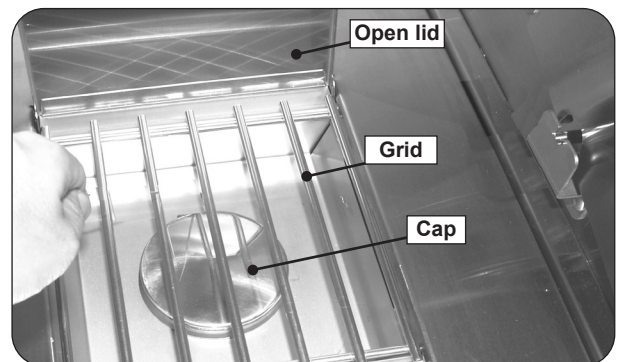

Fig. 21-3 Place burner cap and grid
5. Place the burner cap on top of the burner, as shown in Fig. 21-3.
6. Place the grid so that it rests on the front and back lips of the sideburner opening (Fig. 21-3).